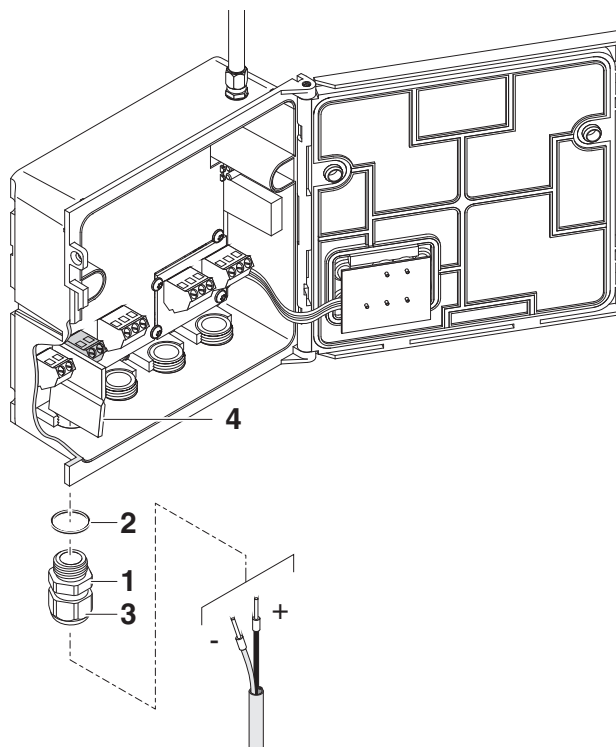

Fig. 3-11 Inserting the 24 V DC line.
- 5 Screw a cable gland (pos. 1 in Fig. 3-11) with sealing ring (pos. 2) into the enclosure below the 24 V DC connection.
- 6 Loosen the coupling ring (pos. 3).
- 7 Feed the 24 V DC line through the cable gland into the enclosure. When doing so bend the flexible divider (pos. 4) to the left.